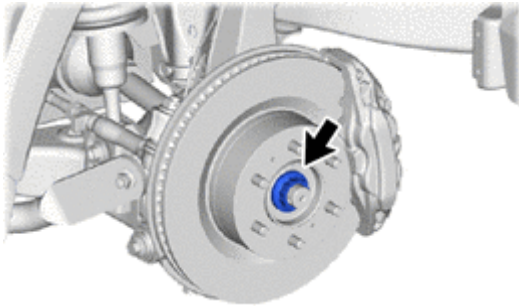

Fig. 7-10
(3) Remove front axle shaft nut. Discard (Fig. 7-10).
(4) Repeat for opposite side.